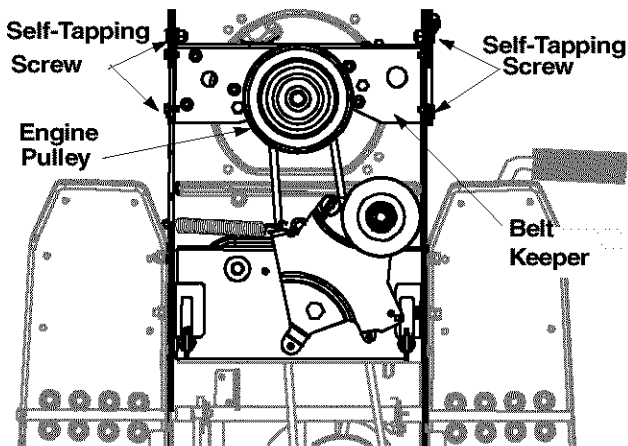

Figure 29
- Remove the four self-tapping screws which hold the belt keeper assembly to the frame at the engine pulley. Push the belt keeper assembly forward and out of the way. See Figure 29.